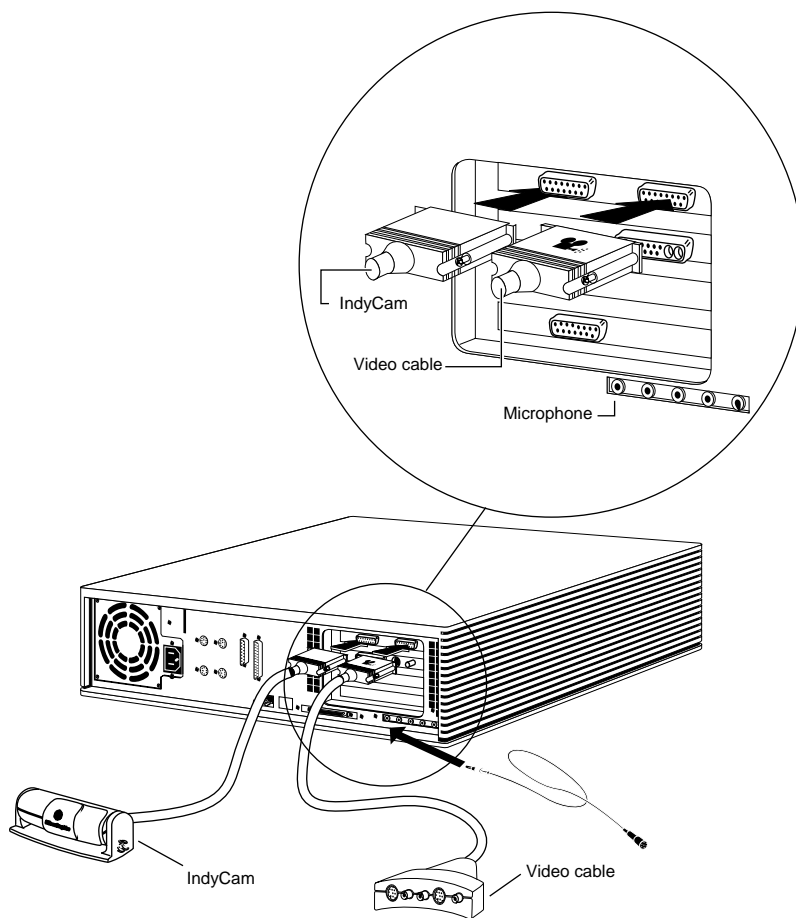

Figure 2-31 Attaching the Indigo² Video Cable and the IndyCam Camera
3. Attach the Indigo² Video cable and the IndyCam camera to the two connectors on the video board, as shown in Figure 2-31.
4. Connect your microphone, if it is disconnected. See Figure 2-31. You can attach the microphone to the side of the camera, if you choose to do so.
- Shut down the system and reconnect the IndyCam camera, as shown in Figure 2-31. Make sure that the IndyCam connector is completely seated in the video board connector. Start up and log in to your workstation.